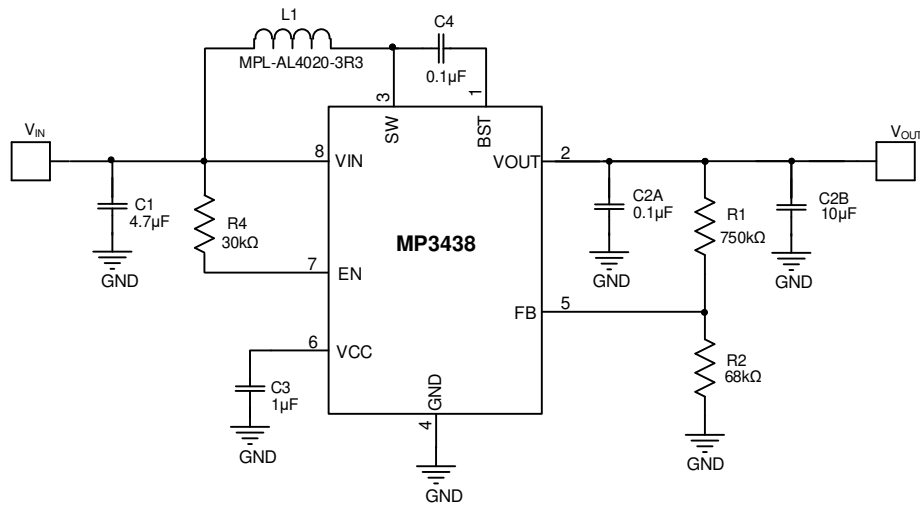
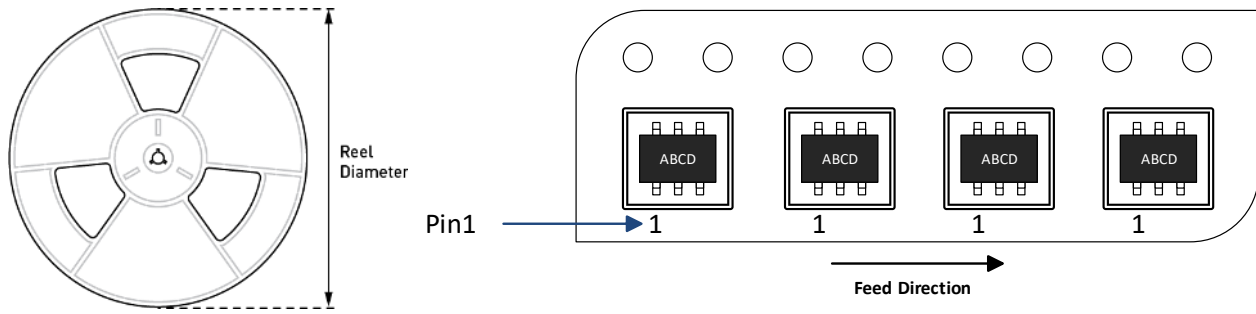

**Figure 3: Recommended PCB Layout** (13)
**Figure 4: Typical Application Circuit for a 12V Output**
Figure 4 on page 19 shows the detailed application schematic. The typical performance and circuit waveforms are shown in the Typical Performance Characteristics section on page 8. For more device applications, refer to related evaluation board datasheet.
For the best results, refer to Figure 3 and following the guidelines below:
See Figure 3 for layout recommendation, which is based on the schematic in Figure 4.
13) Figure 3 is based on Figure 4 on page 19.